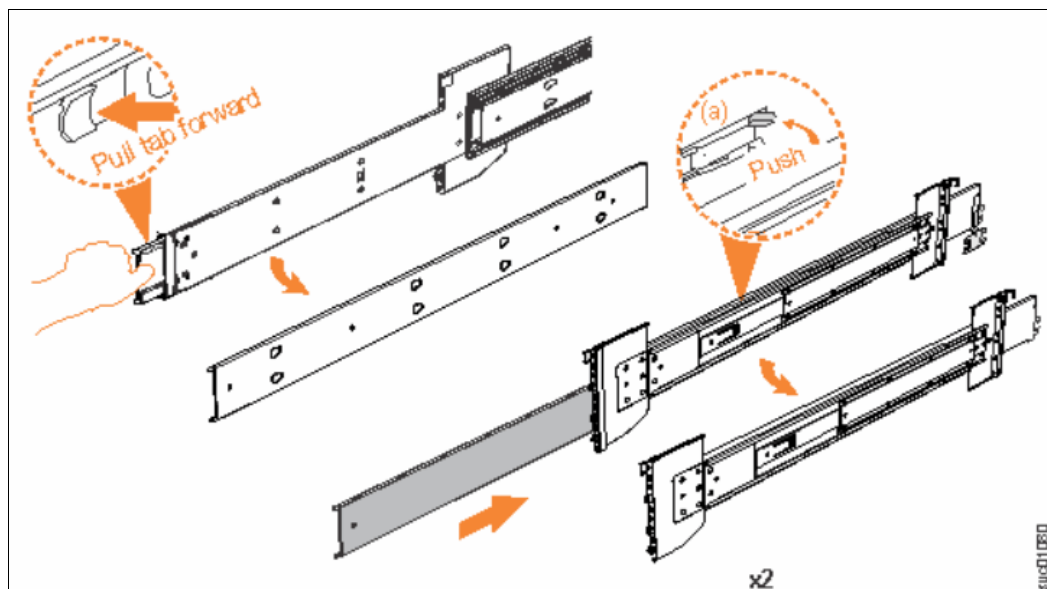

Figure 6-8 Detaching the inner rail member
2. Remove the inner member of each rail. Push the tab (a) and slide the middle rail member back. See Figure 6-8.